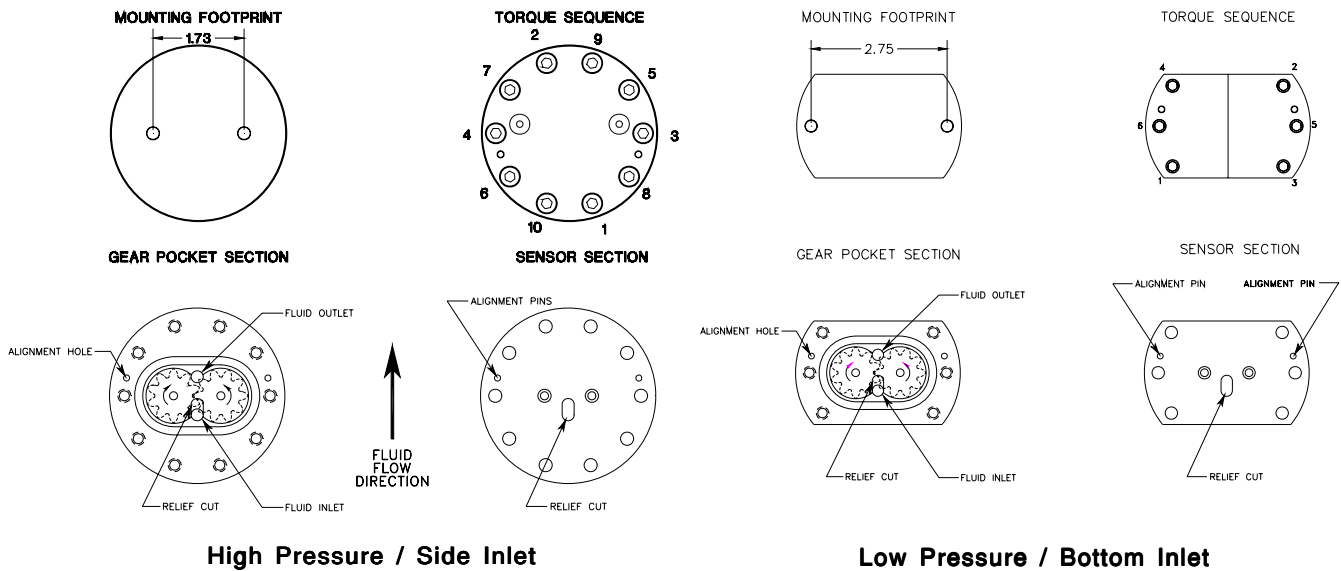

Figure 4: Views of Flow Meter Bodies
Ensure proper fluid filtration is provided on the inlet side of the flow meter. The unit may be mounted using the mounting bolt pattern shown in Figure 4. Two (2) 1/4 - 20 bolts should be used. Always mount the flow meter with the gear faces perpendicular to the horizon of the earth (i.e. - Vertical). This minimizes the effect of gravity on the gears. The direction of flow must be plumbed as marked on the side label of the meter. The fluid inlet is opposite the sensor connection.